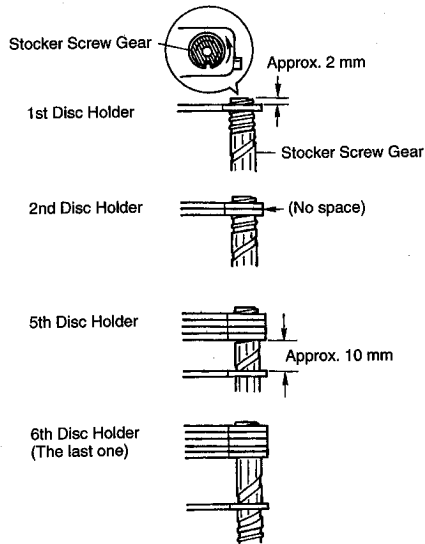

Fig. 2.10.2
Refer to Figs. 2.10.2 and 2.10.3.
- (1) While turning the four Stoker Screw Gears little in turn, insert each Disc Holder one by one.
- As shown in Fig. 2.10.2, leave space of approx. 2 mm (approx. equivalent to the Disc Holder's thickness) at the free end of the Stoker Screw Gears.
- Insert the Disc Holders without space between them. When you try to insert the 5th Disc Holder, the first one will apart approx. 10 mm as shown in Fig. 2.10.2.